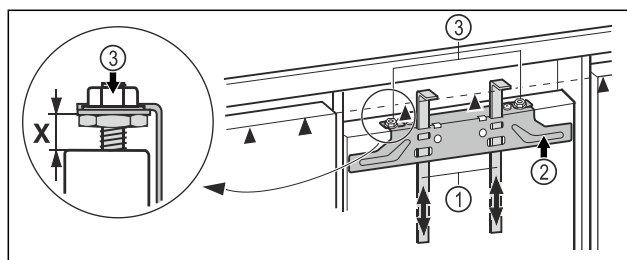

Fig. 41
- Push the assembly aids *Fig. 41 (1)* up to unit door height. Lower stop edge ▲ of the assembly aid = upper edge of the unit door to be assembled.
- Unscrew the fastening bar *Fig. 41 (2)* using the lock nuts *Fig. 41 (3)*.